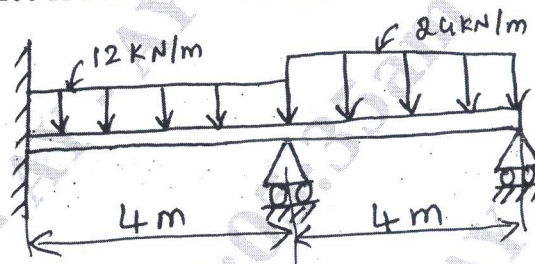

Fig Q7(b)
b. For the beam shown in Fig Q7(b), determine the deflection at mid span and determine the end reaction. Take $E = 200\text{GPa}$ and $I = 4 \times 10^6 \text{ mm}^4$